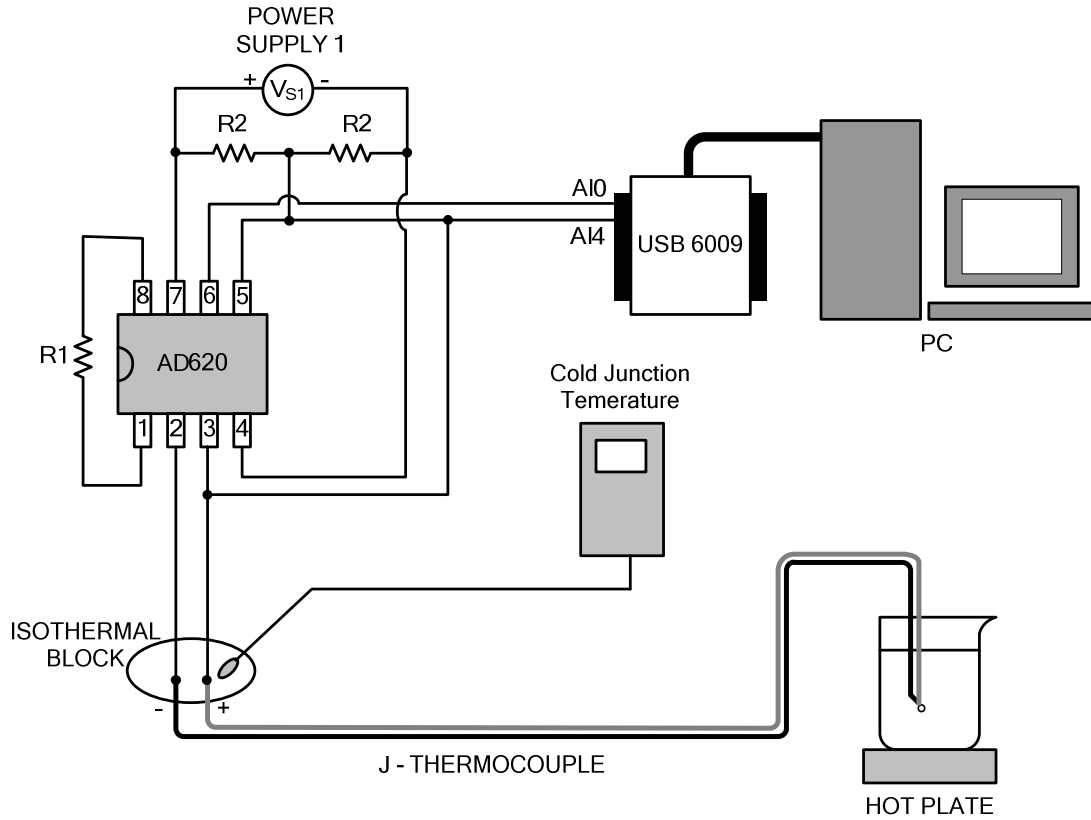

Figure 4.
1. Prepare the experimental setup shown in Figure 4 and the **Thermocouple VI** in Figure 5.
2. Insert the cold junction thermocouple into the isothermal block as shown in Figure 4 and wrap with insulation.